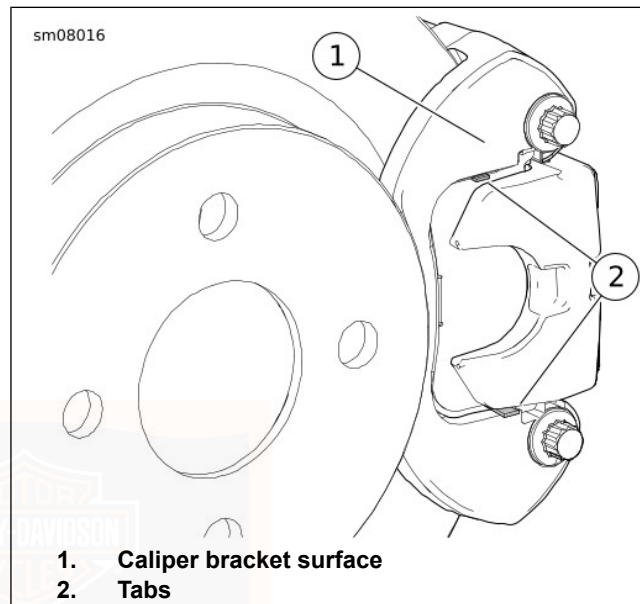

Figure 64. Rear Brake Pad Inspection
4. See Figure 64. Compare the end of tabs (2) to the surface of the outboard caliper bracket (1). If tab is flush or below surface, see a Harley-Davidson dealer.